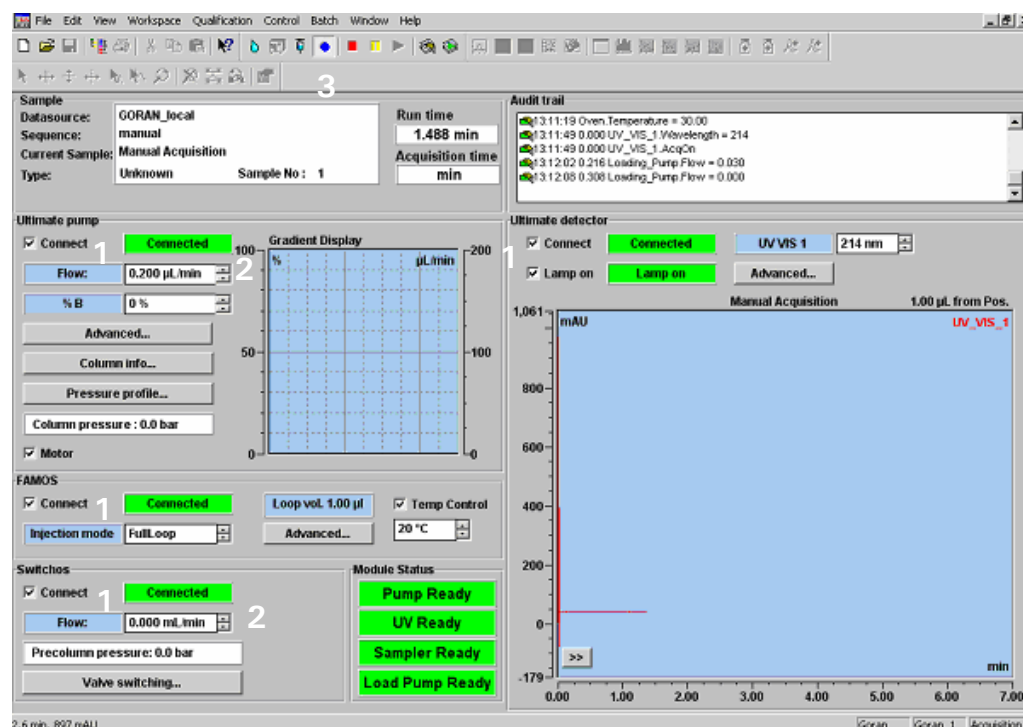

FIGURE 4-8 The Control Panel for UltiMate, FAMOS and Switchos
To gain control of the different Ultimate modules, each module of the configuration need to be connected to the control panel. Check the **Connect** boxes to connect the individual modules (item 1; FIGURE 4-8).
Flow delivery and baseline monitoring can now be started. Enter the column and the trap column flow rates in the **Flow** fields in the corresponding boxes (item 2; FIGURE 4-8) and click on the blue circle in the toolbar to start baseline monitoring (item 3; FIGURE 4-8).